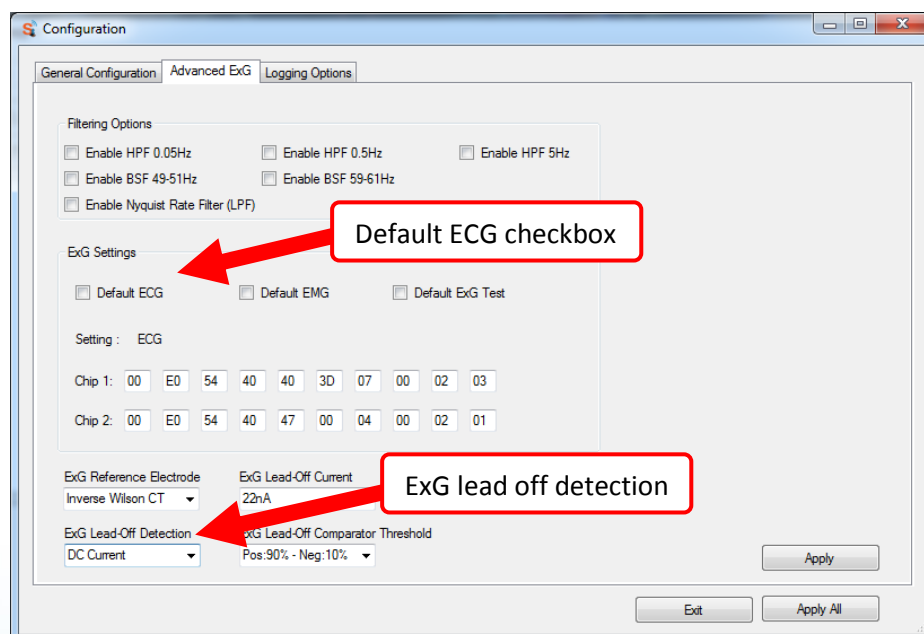

Figure 2-7 Advanced ExG tab for ECG lead off detection
1. Enable the *Default ECG* checkbox, set the *ExG Lead-Off Detection* to *DC Current* as in Figure 2-7 and press the “Apply All” button.